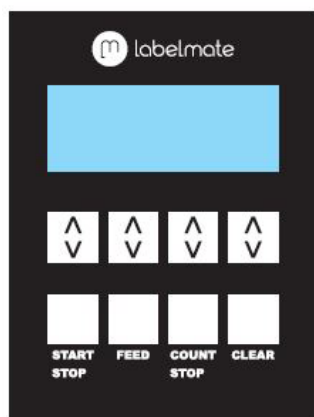

FIG. 1
- use the 4 arrow buttons (FIG.1) on the control panel to set the required number of labels and push the START/STOP button